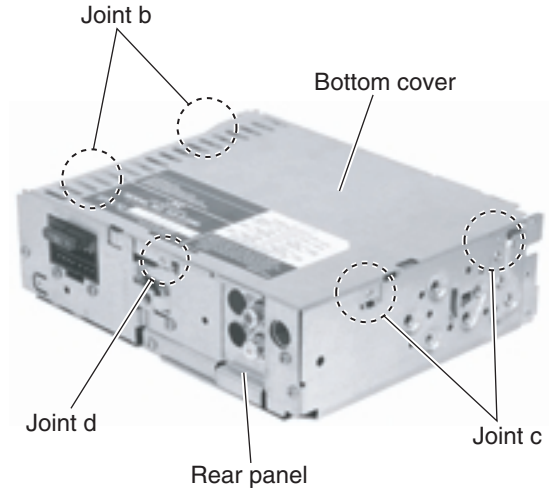

Fig.5
■ **Removing the bottom cover (See Fig.5, 6)**